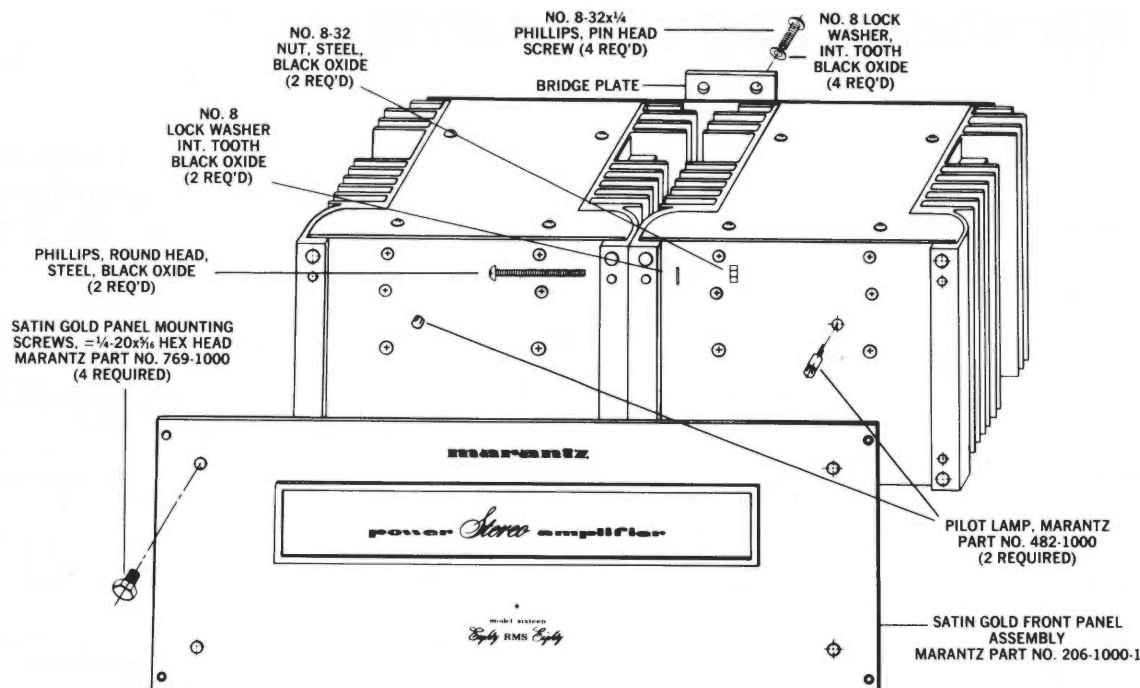

Figure 7. Removal of Front Panel and Separation of Modules.
4. Disassemble amplifier as shown in Figure 7, and disassemble amplifier module as shown in Figure 11.